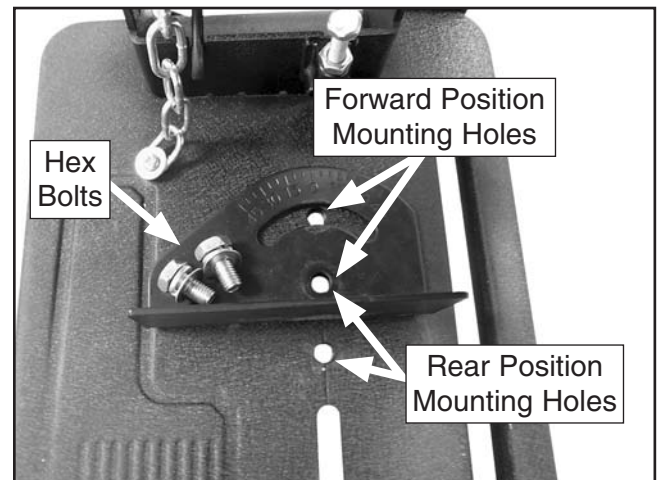

Figure 10. Inner vise jaw mounting positions.
2. Use the two hex bolts to attach the inner jaw to the base in either the forward or rear position (see **Figure 10**). Use this feature to align the blade and workpiece centerlines.